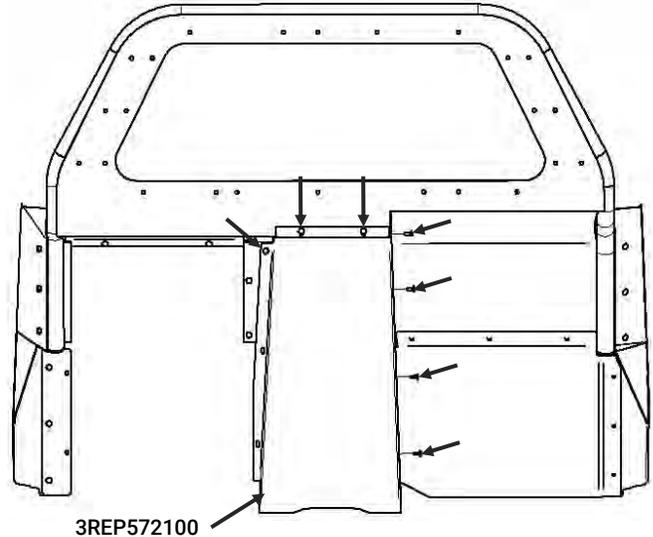

Figure 5
- A. Set the Recess Panel [3REP572100] against the partition and align mounting holes and fasten using (7) carriage bolts [3X36] and whiz nuts [3X16Z] at the side, top and flange (Figure 5).